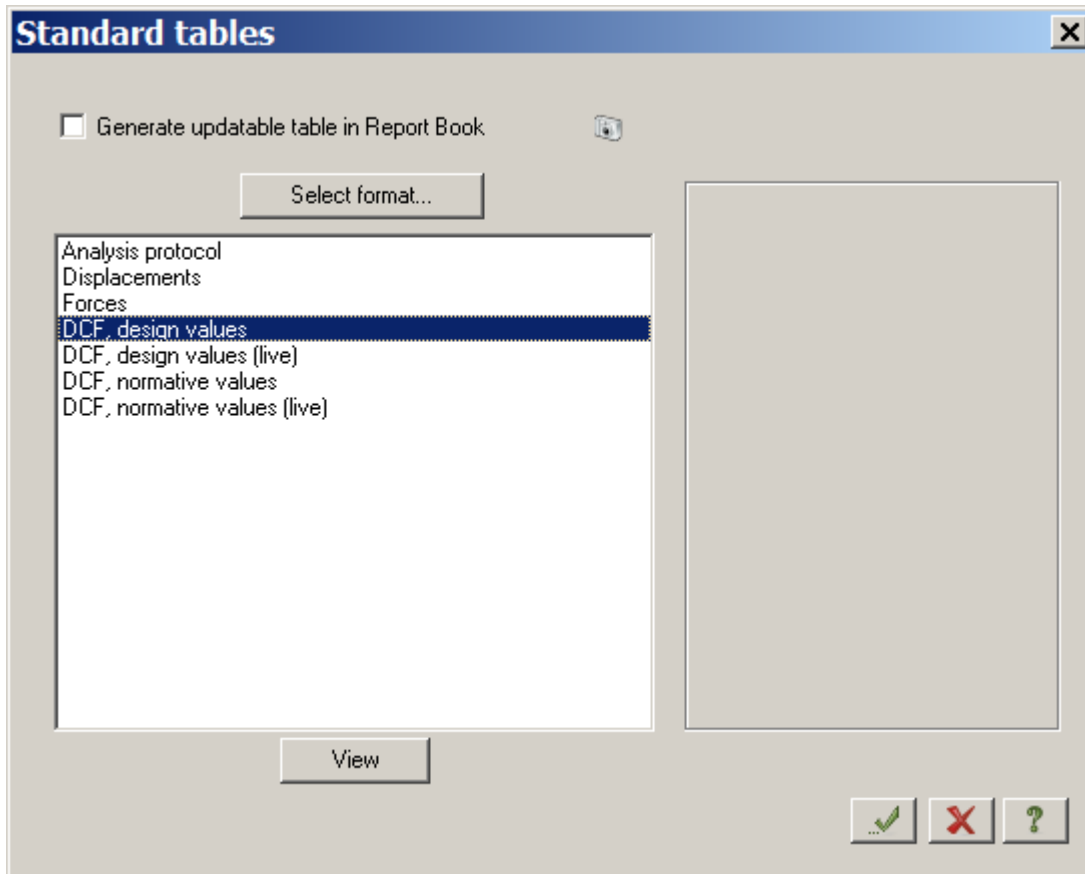

Figure 1.22 **Standard tables** dialog box
- ⇒ In the **Standard tables** dialog box (see Fig.1.22), select **Design combinations of forces, design values** in the list.